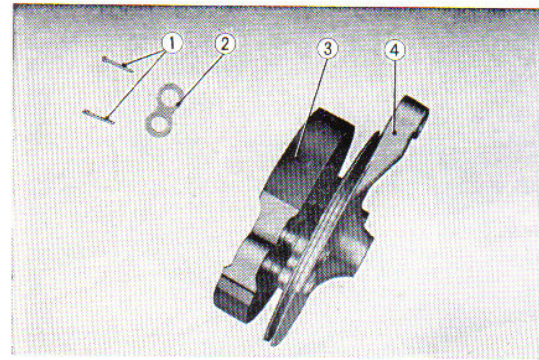

Fig. 4.94 Removing the rear brake shoe
① Dial gauge
② Rear wheel rim
7. Remove 2.5×20mm cotter pin and anchor pin washer. Separate the brake arm from the panel in order to extract the rear brake shoe. (Fig. 4.94)